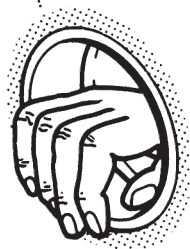

Fig. 76
10. Make good between the edge of the liner and the outside wall with cement mortar or a similar substance, by reaching through the liner and pressing the mortar between liner and the outside brick work (Fig. 76). Make good between the liner and the inside wall. Apply soap solution to the 'O' ring inside the liner.